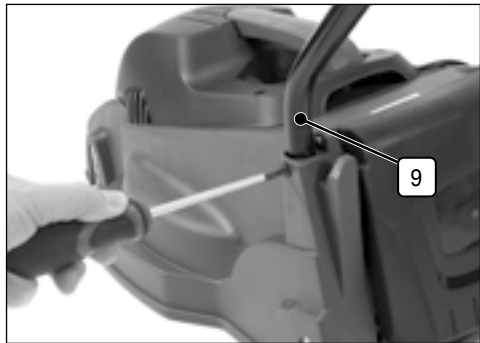

Fig. 1
6.1 Attaching the Lower Handle 9 to the Mower Motor (Fig.1)